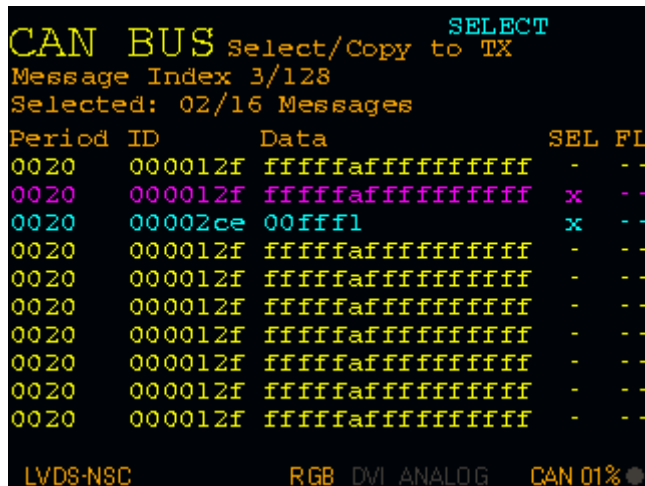

Figure 7.28. CAN Bus Select/Copy to TX window.
- *Select.* Selects the message which is marked on CYAN colour. A marked message is displayed in MAGENTA and has an x assign to it along the SEL column. See figure 7.28 as an example.